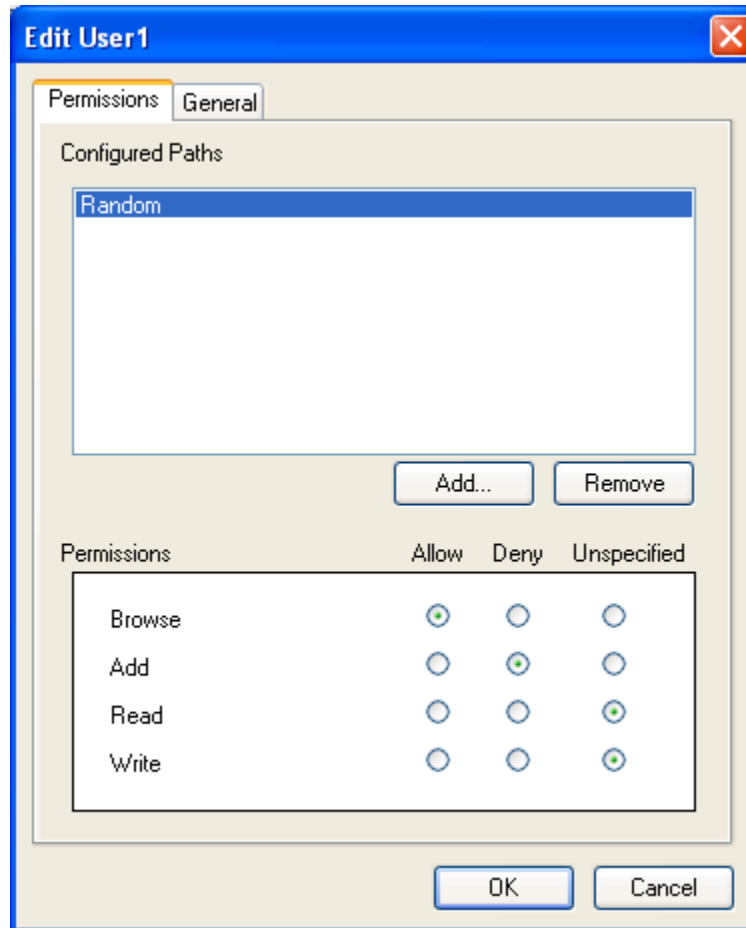

Figure 89 - Edit <Username>: Example
5. The selected path or item will be listed in the **Configured Paths** screen section of the **Edit User** window. Permissions can now be assigned, as in the example depicted in Figure 89.